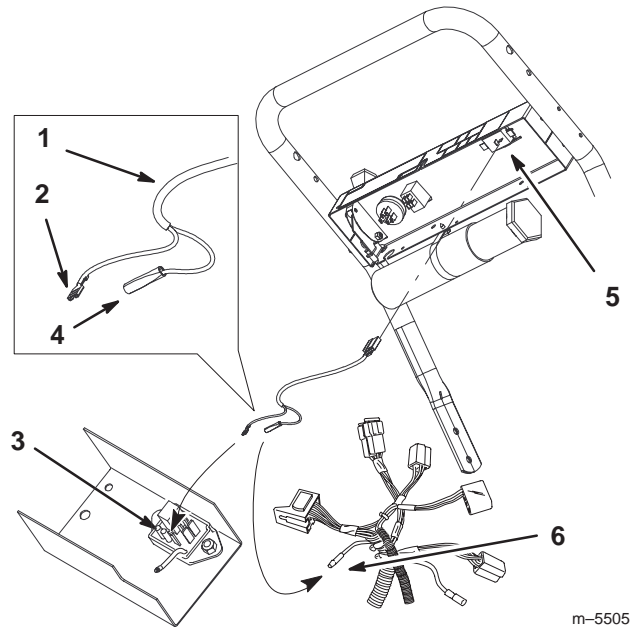

Figure 23
1. Install the blade terminal (pink wire) to the single terminal on the module (Fig. 23).
2. Install bullet connector terminal (black wire) to the hour meter bullet connector on main harness (Fig. 23).
3. Install the harness connector to the hour meter (Fig. 23).